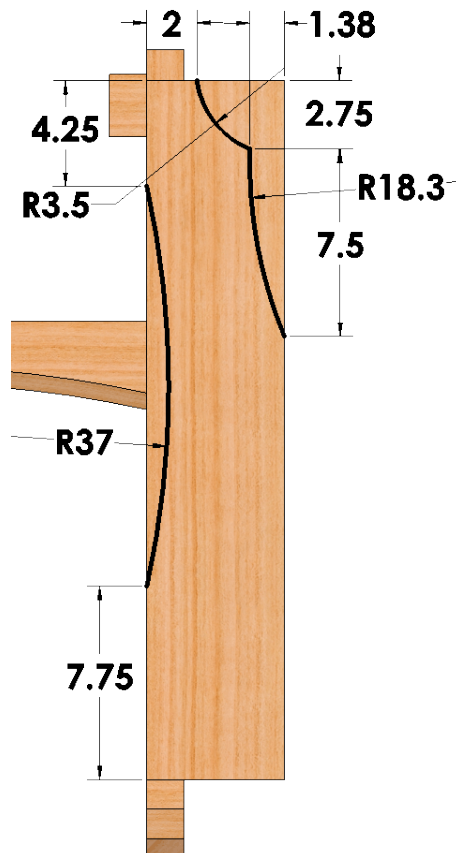
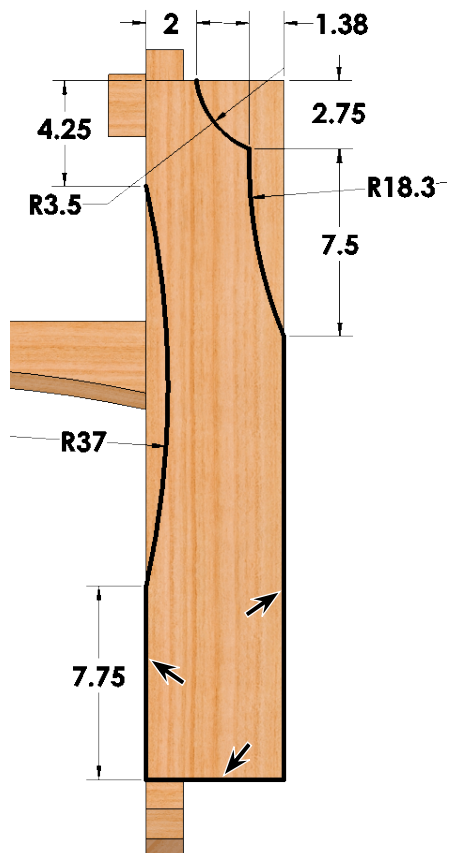

Fig. 15
Fig. 16
Step 5. Click **Smart Dimension**  (S) on the Sketch toolbar.
Step 6. Add dimension, **Fig. 15**.
Step 7. Click **Line**  (L) on the Sketch toolbar.
Step 8. Sketch the **3 lines**, **Fig. 16**.